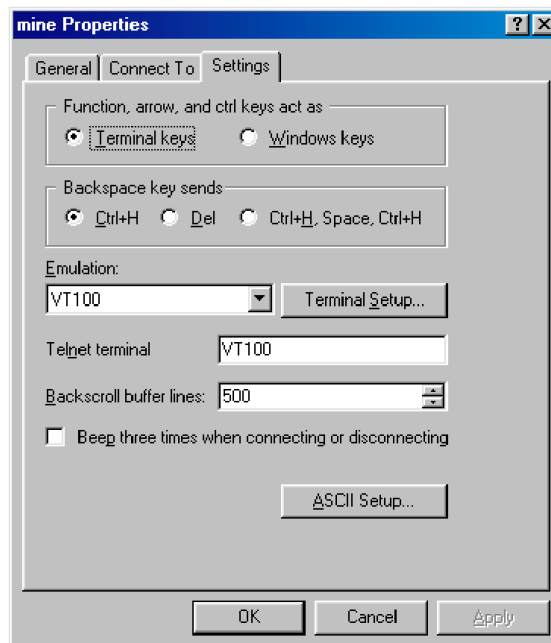

Figure 15. Terminal keys configuration
- Configure the Settings for *Function, arrow and ctrl keys act as* to *Terminal keys* as shown in figure 15.